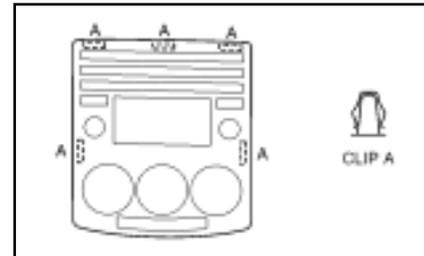

FIGURE 4
- 2.) USING A FIBER STICK, CAREFULLY PULL THE CENTER PANEL UNIT OUTWARD, DETACH CLIP A FROM THE DASHBOARD. (SEE FIGURE 4)